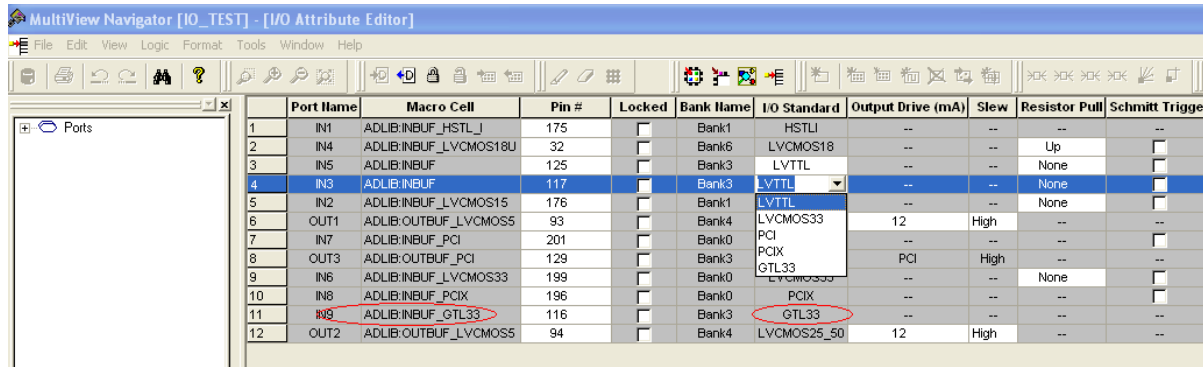

Figure 8-6 • Assigning a Different I/O Standard to the Generic I/O Macro
- Users will need to use the I/O Attribute Editor in Designer to change the default I/O standard if needed (see Figure 8-6 on page 209).
- The I/O standard of technology-specific I/O macros cannot be changed in the I/O Attribute Editor (see Figure 8-6).